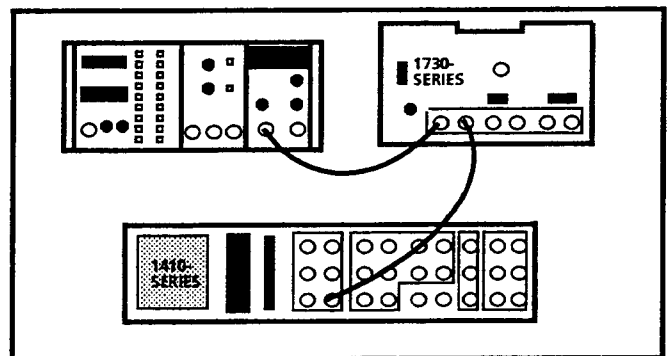

Fig. 5-16. Equipment hook-up to adjust 0.2 μ s timing using the 1410-Series sine wave output from the multiburst generator.
- b. Loop-through connect the multiburst output from the 1410-Series generator to the CH-A INPUT of the 1730-Series and the Digital Counter. See Fig. 5-16.